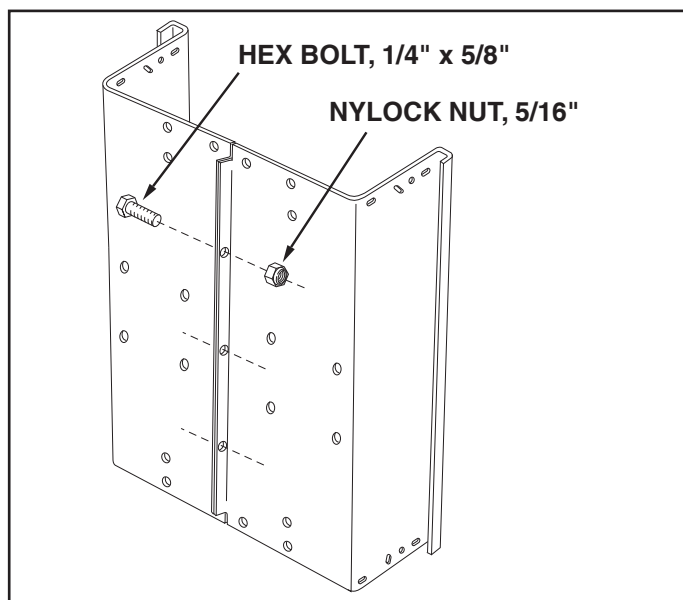

FIGURE 1
- (1) Pliers
- Position cart body halves upright on a smooth level surface such as a garage floor or a paved driveway. See figure 1.
- Assemble halves together using three 1/4" x 5/8" hex bolts and 1/4" nylock nuts as shown in figure 1. **Do not tighten.** See figure 1.
- At this time **tighten** the three bolts in the bottom of the cart which were assembled in figure 1.